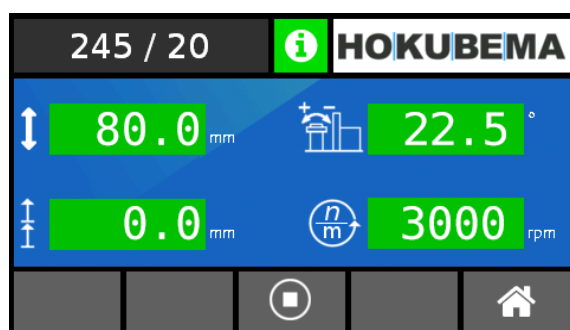

Figure 28: Machine / Axes Overview
Important: First, position the angular axis exactly at 0.0° via the “Axes Overview” in the “Tilt of spindle” window (see \Rightarrow Figure 28). For procedure refer to section \Rightarrow 13.6.1.
- Adjust the spindle in manual inching mode (see \Rightarrow 13.7) until the light gap between the spindle and the knife-edge square has completely disappeared ($90^\circ \triangleq$ Position 0.0°) \rightarrow The tilt indicator in the axis overview (see \Rightarrow Figure 28) should now indicate a value deviating from 0.0° (e.g. 0.5°).
Important: First, position the angular axis exactly at 0.0° via the “**Axes Overview**” in the “**Tilt of spindle**” window (see ⇒ Figure 28). For procedure refer to section ⇒ 13.6.1.
Important: First, position the angular axis exactly at 0.0° via the axis "Axes Overview" in the "Tilt of spindle" window (see ⇒ Figure 28). For procedure refer to section ⇒ 13.6.1.